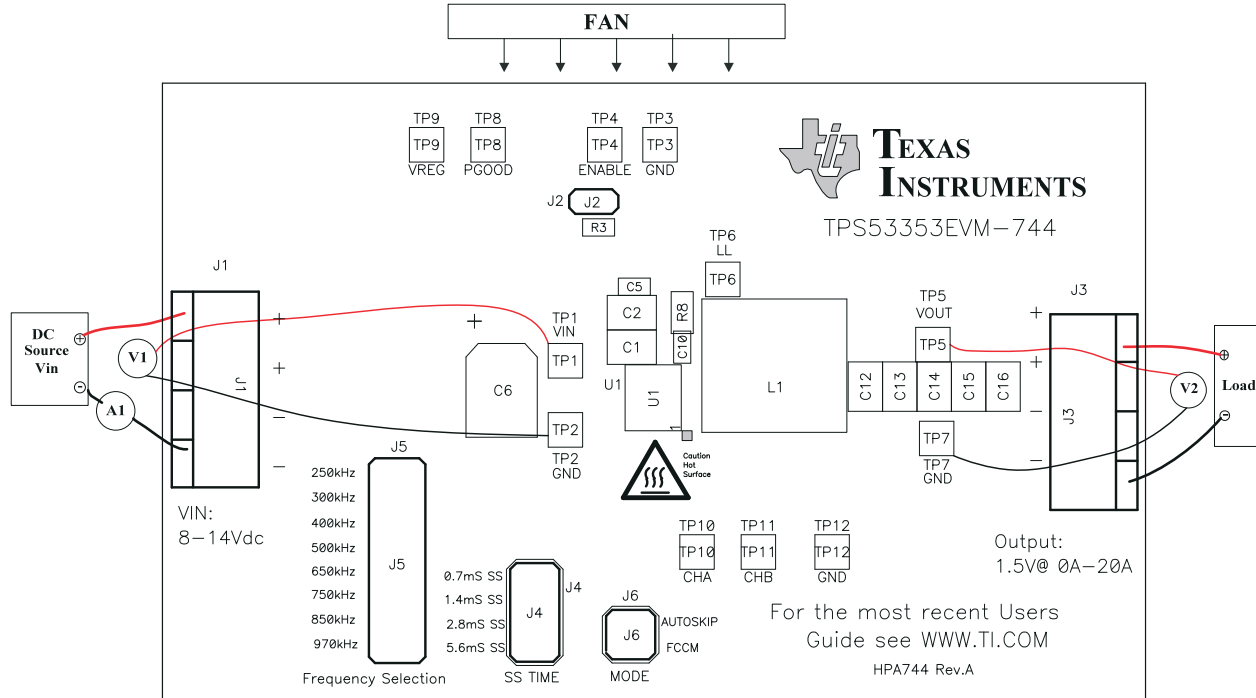

Figure 4-2. TPS53353EVM-744 Recommended Test Setup
Voltage Source: The input voltage source V_{IN} must be a 0-V to 14-V variable DC source capable of supplying 10 A_{DC}. Connect V_{IN} to J1 as shown in Figure 4-2.
Figure 4-2 is the recommended test setup to evaluate the TPS53353EVM-744. Working at an ESD workstation, make sure that any wrist straps, bootstraps or mats are connected referencing the user to earth ground before power is applied to the EVM.
1. Before connecting the DC input source V_{IN} , it is advisable to limit the source current from V_{IN} to 10-A maximum. Ensure that V_{IN} is initially set to 0 V and connected as shown in Figure 4-2.
Place a fan as shown in Figure 4-2, and turn it on, ensuring that air is flowing across the EVM.
1. Set up the EVM as described in Section 4 and Figure 4-2.
1. Set up EVM as described in Section 4 and Figure 4-2.